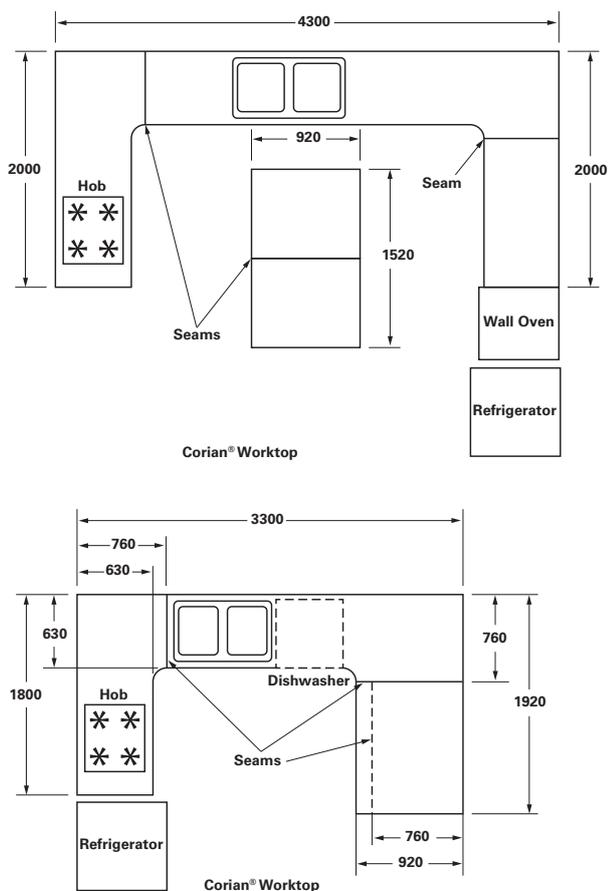

Figure B-1
1. Consider the positions of any cut-outs, particularly for hobs or other heat-generating appliances. If the installation is “L” or “U” shaped, position the site seam for the worktop piece containing the appliance to be parallel with the front edge of the heat generating appliance if possible. This can be seen in Figure B-1. If parallel positioning is not possible, place the seam in the most convenient position.
5. Consider the diagrams illustrated in Figure B-1 as good examples of optimising the planning of seam positions.